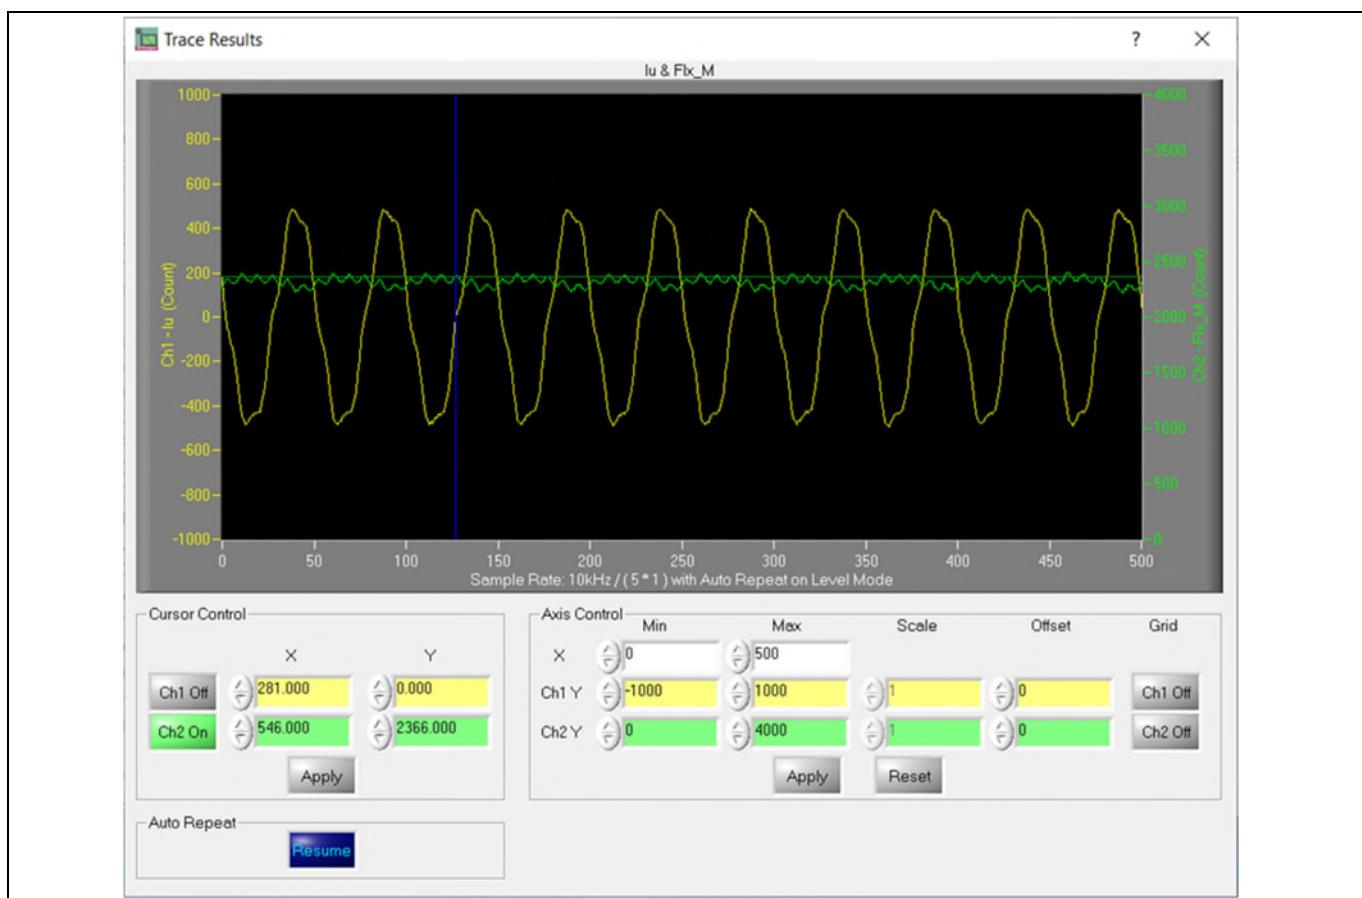

Figure 11 Trace waveform for I_u & Flx_M at 50% speed
15. Set the target speed to about 50% of the maximum speed and start the I_u & Flx_M trace with Auto Repeat on Level Mode (see Figure 11.) Flx_M is better within the range of 2000 to 2500 (rated value is 2048), and must be steady and DC-like.